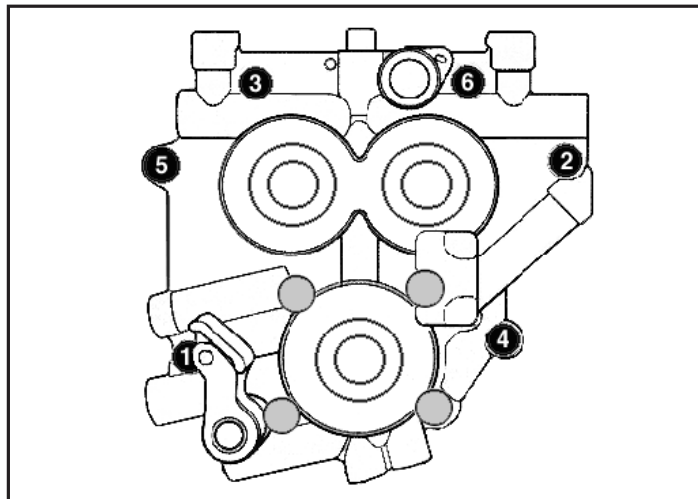

Figure 2
6. Following sequence shown in **Figure 2**, alternately loosen and remove cam support plate bolts.
- Loosely install support plate screws with a drop of blue thread locker Alternately tighten screws to 95 in-lbs. torque following sequence shown. See Figure 2 on Page 4.
Support plate screws that pass through alignment dowels (See positions 1 & 2 in Figure 2) can be easily stripped when applying maximum 120 in-lbs. torque as recommended in factory service manual.